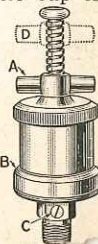

Figure 1.
**Second.** The large automatic grease cup (Figure 1, not furnished on the 1½, 1¾, 2 and 2¼ horse-power engines) goes on the connecting rod. To fill and adjust this cup, screw the lever "A" down as far as it will go. Then unscrew the cup at "B." With a screwdriver turn the screw in the shank "C" to the right until the hole through the bottom of the cup is closed.